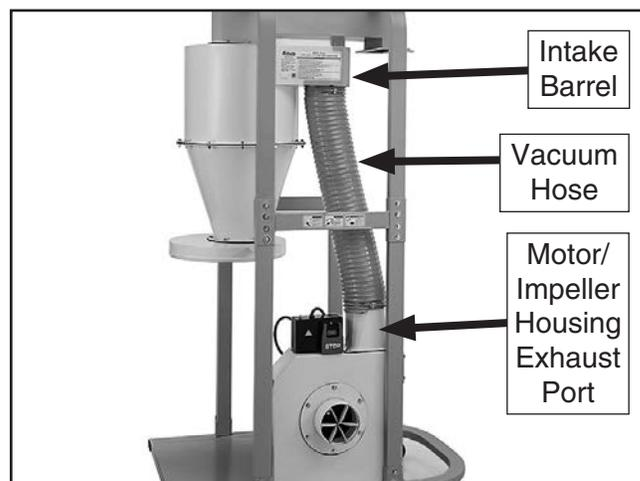

Figure 23. 6" vacuum hose attached to intake barrel and impeller housing exhaust port.
19. Place 6 $\frac{1}{2}$ " hose clamp on each end of 6 X 33" vacuum hose, then connect hose to motor/impeller housing exhaust port and intake barrel (see **Figure 23**). Tighten clamps to secure.